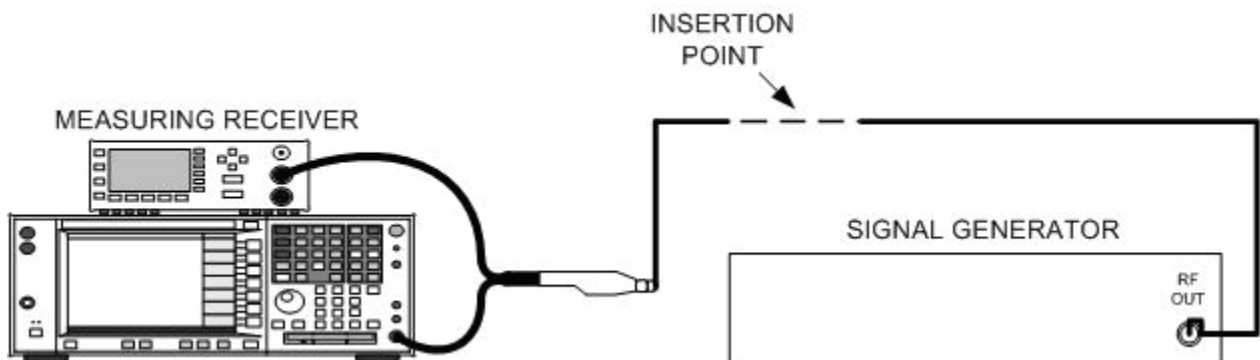
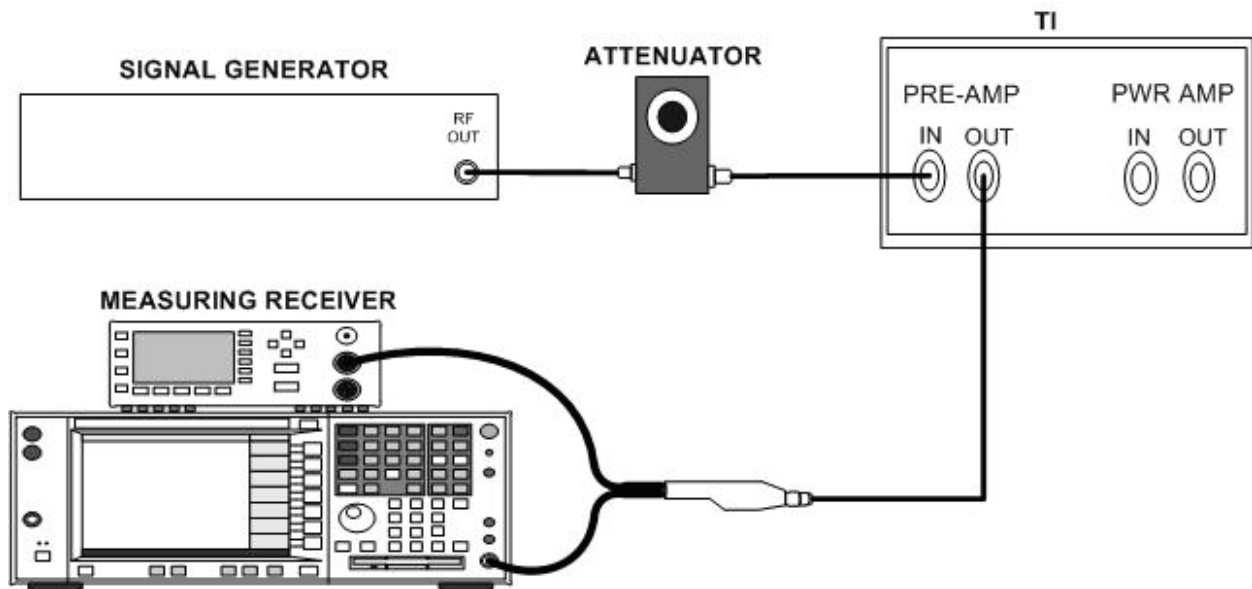

Figure 1. Attenuator characterization - equipment setup.
Figure 2. Gain - equipment setup.
(1) Connect equipment as shown in figure 1.
- (4) Set attenuator to 20 dBm (attenuator remains set at 20dBm throughout procedure).
- (5) Turn signal generator RF output off, connect attenuator at the insertion point as shown in figure 1 and turn signal generator RF output on.
- (6) Record measuring receiver indication in the measuring receiver indication column in table 3.
- (7) Algebraically subtract measuring receiver indication value recorded in table 3 from +10.0 dBm. Record difference in attenuator actual value column in table 3.
- (8) Turn signal generator RF output off, remove attenuator from equipment setup.
- (9) Repeat (1) through (8) above for remaining test frequency settings listed in table 3.
- (10) Algebraically add -40 dBm to attenuator actual value recorded in table 3 for test frequency setting of 0.10 MHz. Record sum in reference column in table 3.
- (11) Repeat (10) above for each test frequency setting listed in table 3.
- (12) Connect equipment as shown in figure 1.
- (13) Adjust signal generator amplitude controls for a measuring receiver indication equal to reference recorded in table 3 for test frequency setting of 0.10 MHz.
- (14) Turn signal generator RF output off; connect equipment as shown in figure 2.
- (15) Turn signal generator RF output on and record measuring receiver indications in raw gain column in table 3.
- (16) Turn signal generator RF output off and disconnect TI from equipment setup.
- (17) Repeat technique of (12) through (16) above for remaining test frequency settings listed in table 3.
- (18) Algebraically subtract raw gain value for 0.10 MHz row from -40 dBm. Record difference in **PRE-AMP** gain column in table 3.
(20) Add highest and lowest **PRE-AMP** gain recorded in table 3 and then divide sum by two. Highest and lowest **PRE-AMP** gain values will be within ± 1.5 dBm of calculated average.
(21) Disconnect TI from equipment setup.
(22) Transcribe reference column values recorded in table 3 to reference column in table 4.
(23) Connect equipment as shown in figure 1.
(24) Adjust signal generator frequency controls to frequency setting listed in table 4 and amplitude controls for a measuring receiver indication equal to reference recorded in table 4.
(25) Turn signal generator RF output off, connect equipment as shown in figure 2 with the following exceptions: Move **PRE-AMP IN** connection to **POWER AMP IN** and move **PRE-AMP OUT** connection to **POWER AMP OUT**.
(26) Turn signal generator RF output on and record measuring receiver indication in raw gain column in table 4.
(27) Turn signal generator RF output off and repeat technique of (23) through (26) above for remaining test frequency settings listed in table 4.
(28) Algebraically subtract raw gain recorded for 0.10 MHz test frequency setting from -40 dBm. Record difference in **POWER AMP** gain column of table 4.